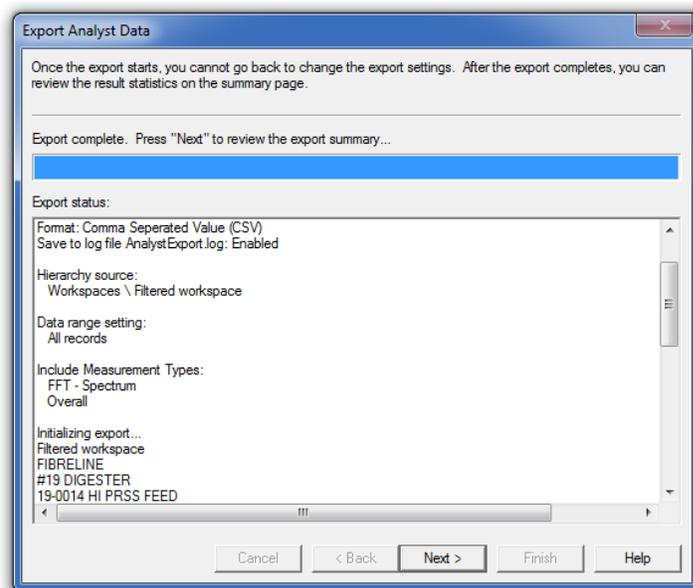

Figure 13. Export complete
13. When the export completes, click **Next >**. [Figure 13]